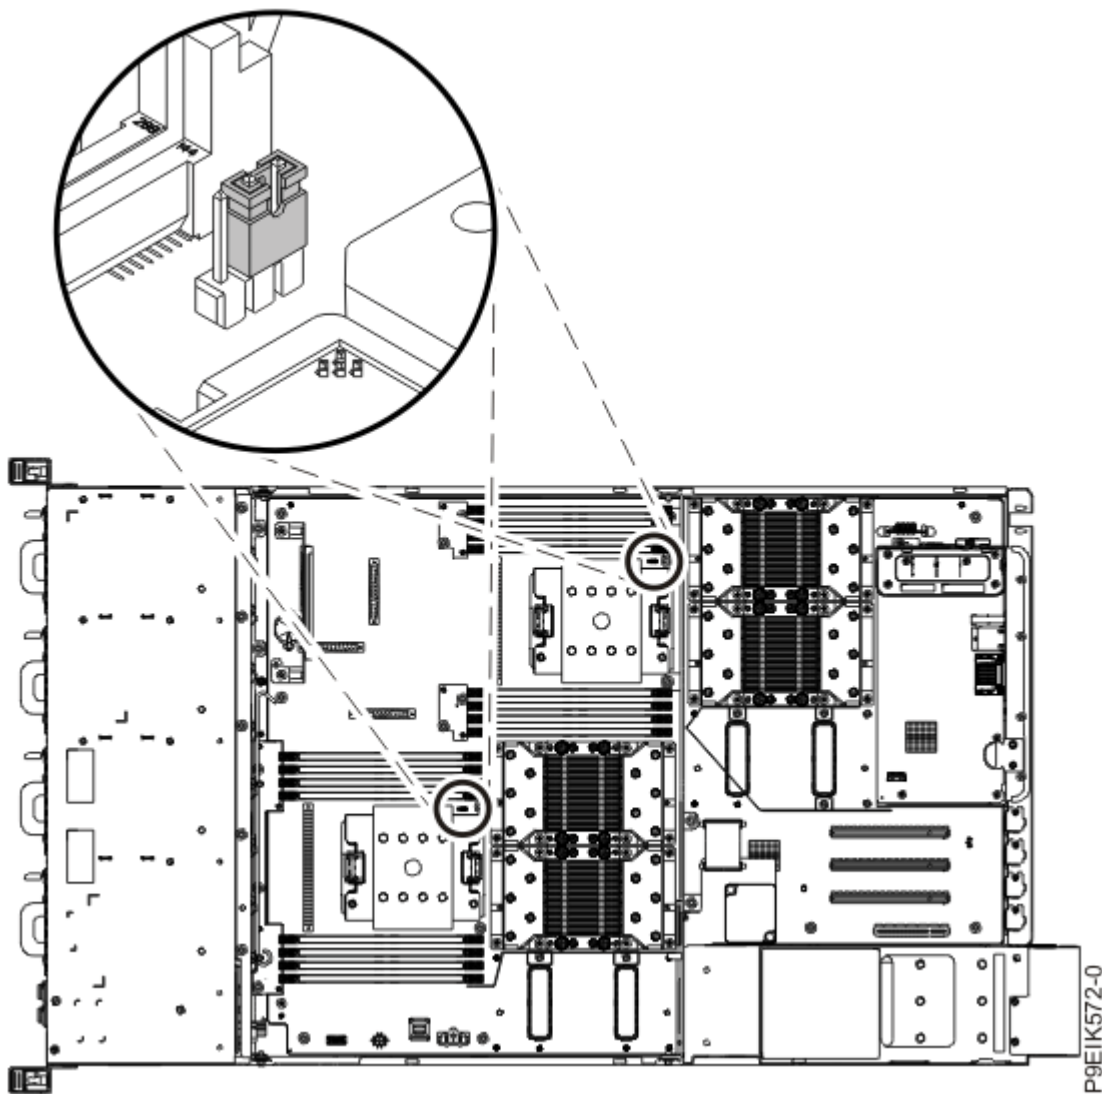

Figure 210. System processor jumper positions
12. Remove the system processor jumpers from the system backplane as shown in Figure 210 on page 240.